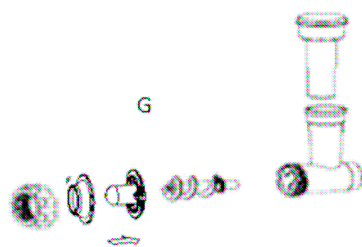
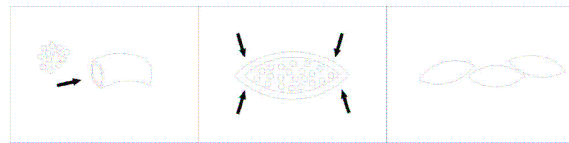

Fig 12
Fig 13
Use the kebbe attachment (H) as Fig.12. Use with the pusher (I) to introduce the minced meat. Form kebbe as illustrated in Fig. 13 and deep fry.